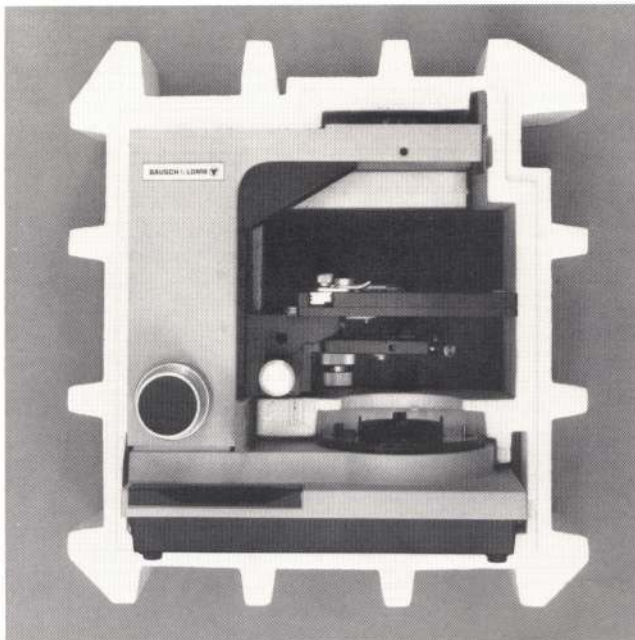

FIG. 1-1 - BALPLAN MICROSCOPE IN SHIPPING CASE
*See Fig. 1-1
Remove the Microscope Stand from its packaging. The Stand is shipped with the Stage, Illuminator, and Lower Base or Cover in place, Fig. 1-1.